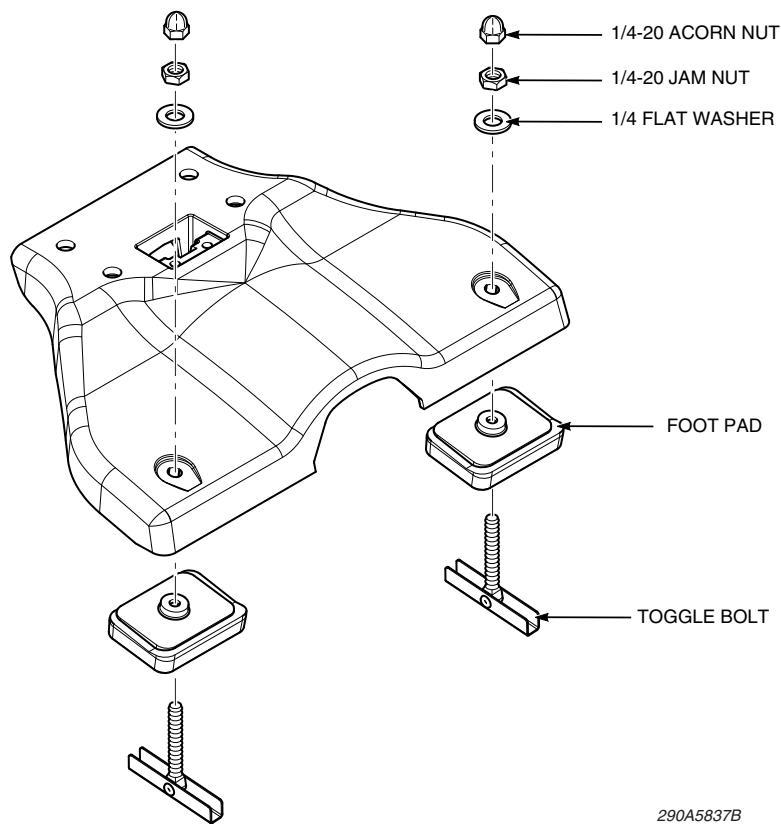

Figure 2: Hardware for mounting the lightbar to the vehicle
3. Insert a toggle bolt in each hole and seal the hole with RTV (Figure 2 on page 4).